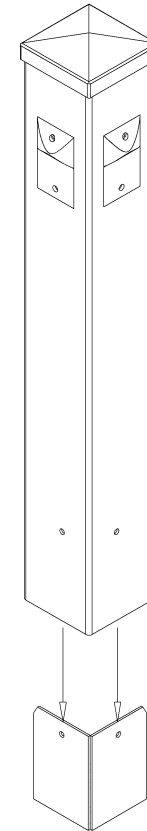

FIG. 1
4. **SET TUBE** onto the baseplate oriented such that the two set screw slots align with the two threaded holes in the mounting base. (See Figure 1)